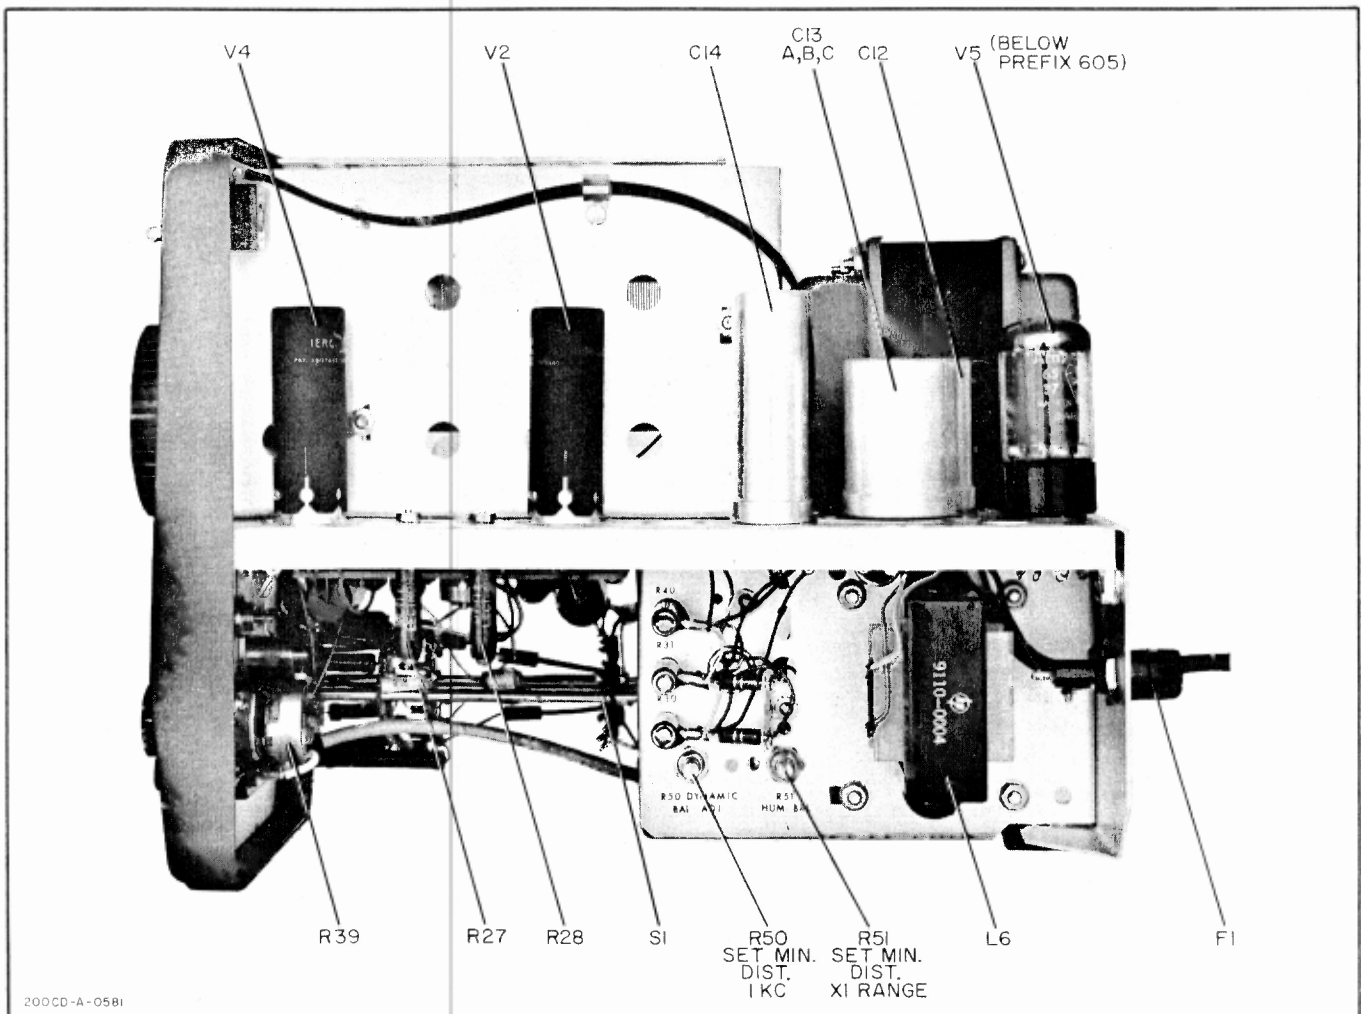

Figure 5-2. Right Side of Model 200CD (as viewed from the front)
5-17. Tubes used in the Model 200CD are listed in Tube Replacement List (table 5-3). If V2 or V4 are changed, replace the special tube shields in their original positions, (shown in figure 5-2).
d. Using an dc electronic voltmeter, measure the positive and negative power supply voltages using ground as a reference. The positive voltage (approximately 225 volts) may be measured between the chassis and C14. The negative voltage (approximately 155 volts) is measured from the chassis to the junction of R30, R31 and R40 (figure 5-2). The difference between the negative and positive voltage should be 380 volts ± 75 volts.
h. Adjust R50 (dynamic balance) for a dip (minimum distortion; see figure 5-2) on the distortion analyzer meter until the lowest possible dip is obtained.
j. Adjust R51 (hum balance; see figure 5-2) instead of dynamic balance in step h.